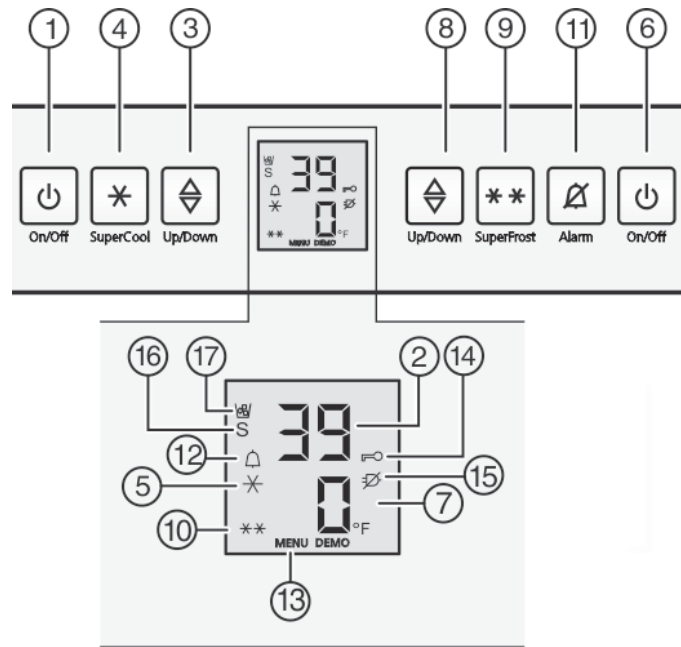

Fig. 3
- ▶ Press the Freezer compartment On/Off button *Fig. 3 (6)*.
- ▶ Press the Fridge compartment On/Off button *Fig. 3 (1)*
- ▶ Activate setting mode: Press SuperFrost button *Fig. 3 (9)* for about 5 seconds.
- ▷ The Menu symbol *Fig. 3 (13)* lights up.
- ▶ Use the Set freezer compartment button *Fig. 3 (8)* to select °.
- ▶ To confirm: Briefly press SuperFrost button *Fig. 3 (9)*.
- ▶ Select °F oder °C with the Freezer compartment set button *Fig. 3 (8)*.
- ▶ To exit setting mode: Press Freezer compartment On/Off button *Fig. 3 (6)*.
- ▶ To activate setting mode: Press and hold the SuperFrost button *Fig. 3 (9)* for approx. 5 seconds.
- ▷ In the display, the Menu Symbol *Fig. 3 (13)* is displayed.
- ▶ Use the Set freezer compartment button *Fig. 3 (8)* to select c.
- ▶ Confirm briefly by pressing the SuperFrost button *Fig. 3 (9)*.
- ▷ The Child Safety symbol *Fig. 3 (14)* lights up on the display.
- ▶ Press the freezer compartment On/Off button *Fig. 3 (6)* briefly.
► Press Alarm button *Fig. 3 (11)*.
At the same time, the Alarm symbol *Fig. 3 (12)* will flash.